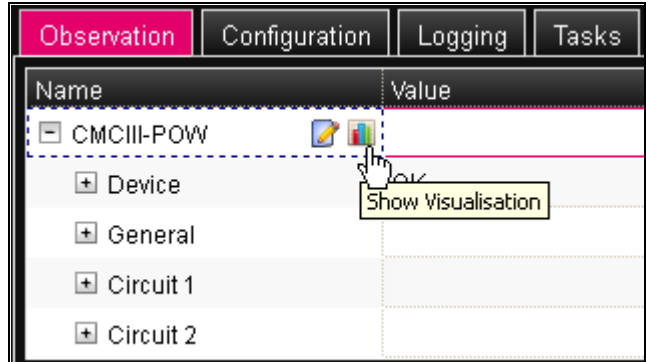

Fig. 31: „Grafic" symbol
- Click the coloured "graphic" symbol next to the "CMC III-POW" entry that resembles a stylised bar graph (fig. 31). The display switches to the graphical representation.